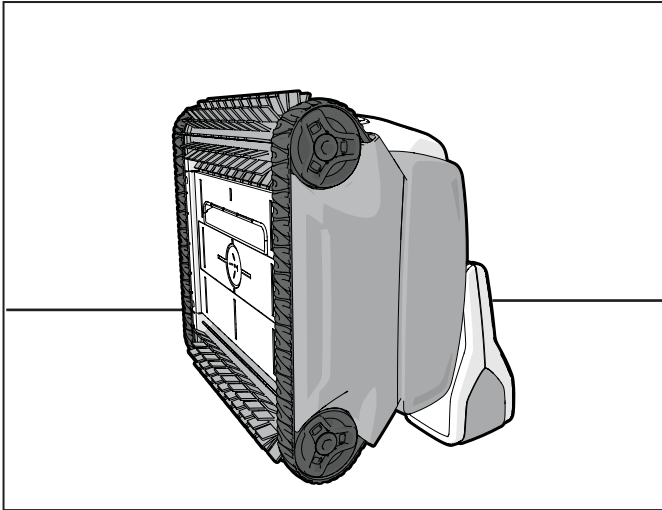

Figure 24. Stand Cleaner Upright
1. Stand the cleaner on its end in a vertical position (see Figure 24).